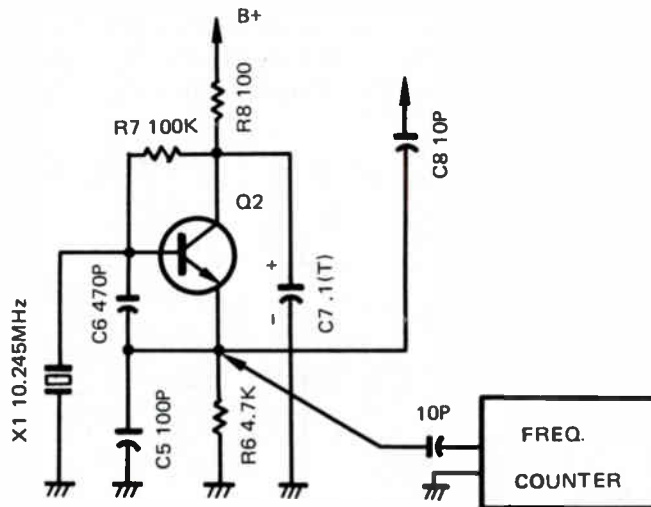

Figure 8. CONNECTION POINT
Step 1: Connect Frequency Counter through a 10pF capacitor to Q2 emitter circuit as shown in Figure 8. (10.245 MHz)